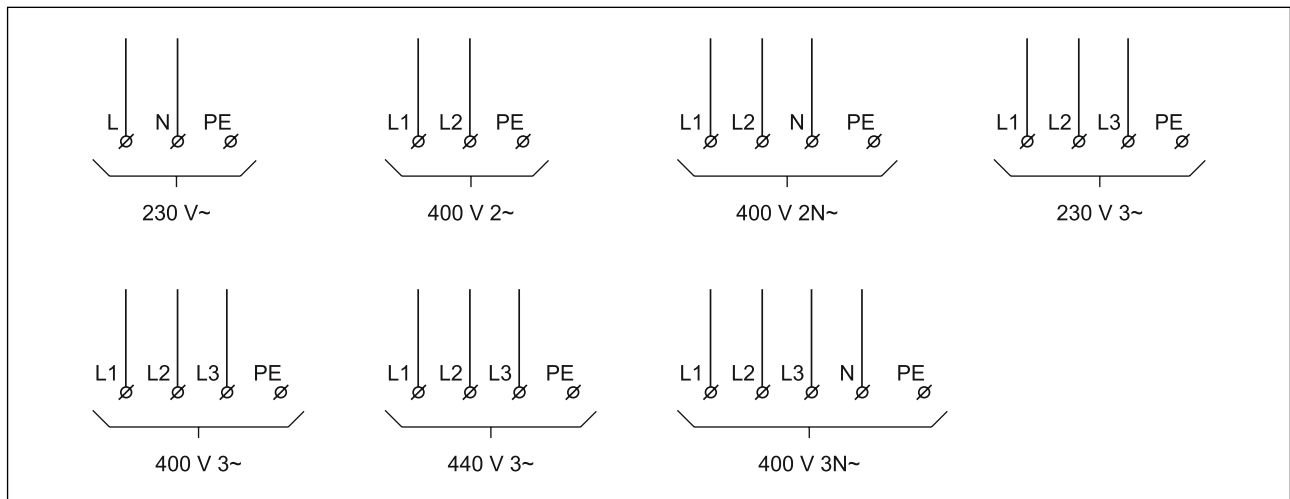

fig. 13
Figure 13 shows the connection of the power supply to the heater. The heater must be connected in accordance with the rated data on the type plate. The protective earth (PE) must always be connected. The power supply installation must comply with applicable regulations.